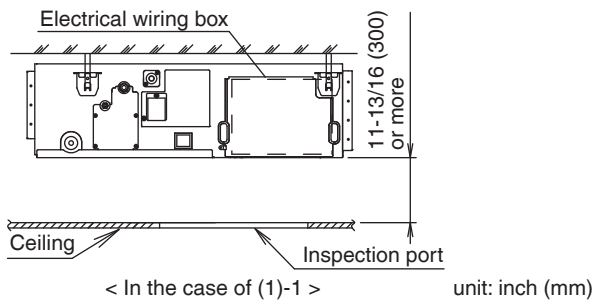
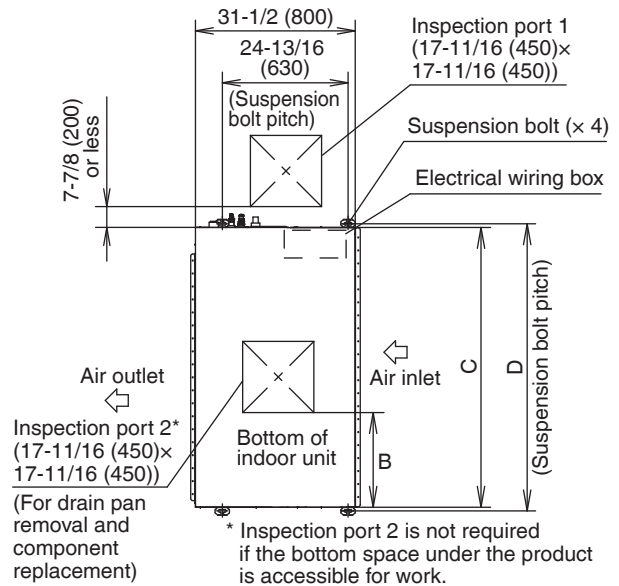

Fig. 3-1
Fig. 3-2
1. Inspection ports 1 and 2 (17-11/16 inch (450mm) × 17-11/16 inch (450mm)) (Fig. 3-2) and a minimum space of 11-13/16 inch (300mm) at the bottom of the product (Fig. 3-1).